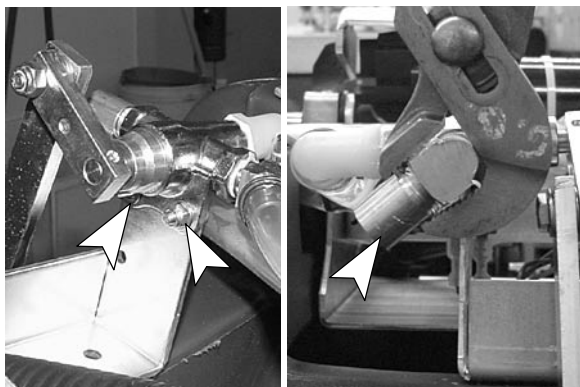
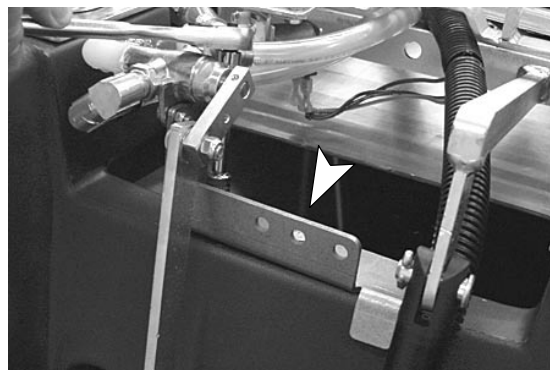

Fig. 3
Fig. 5
3. Remove the two screws that mount the solution control valve to the bracket, 5/16" wrench required. To access the two screws, disconnect the solution hose from the brass fitting and rotate it as shown (Figure 3).
1. Mount the new bracket to the machine and reattach the solution control valve to the bracket (Figure 5). After reattaching the valve, rotate the brass fitting back to its original position, see Figure 3.